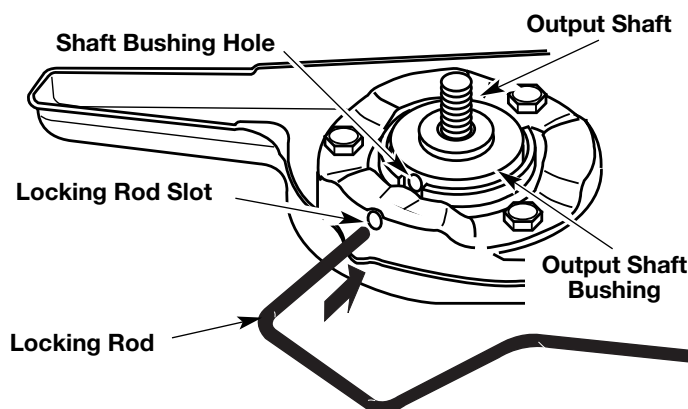
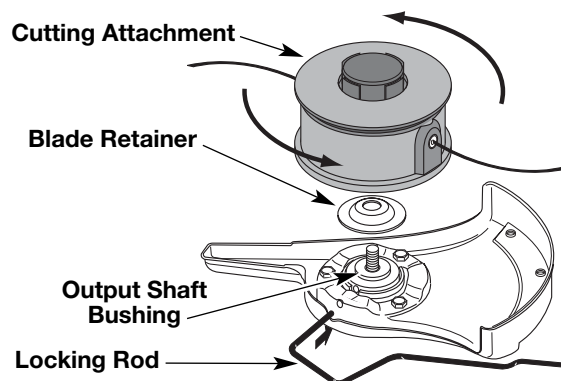

Fig. 8
Fig. 15
1. Align the shaft bushing hole with the locking rod slot and insert the locking rod into the shaft bushing hole (Fig. 8).
6. Align the shaft bushing hole with the locking rod slot and insert the locking rod into the bushing hole (Fig. 8).
1. Align the shaft bushing hole with the locking rod slot and insert the locking rod into the bushing hole (Fig. 8).
5. Align the shaft bushing hole with the locking rod slot and insert the locking rod into the shaft bushing hole (Fig. 8). Place the blade retainer on the output shaft with the flat surface against the output shaft bushing (Fig. 15). Screw the cutting attachment counterclockwise onto the output shaft. Tighten securely.